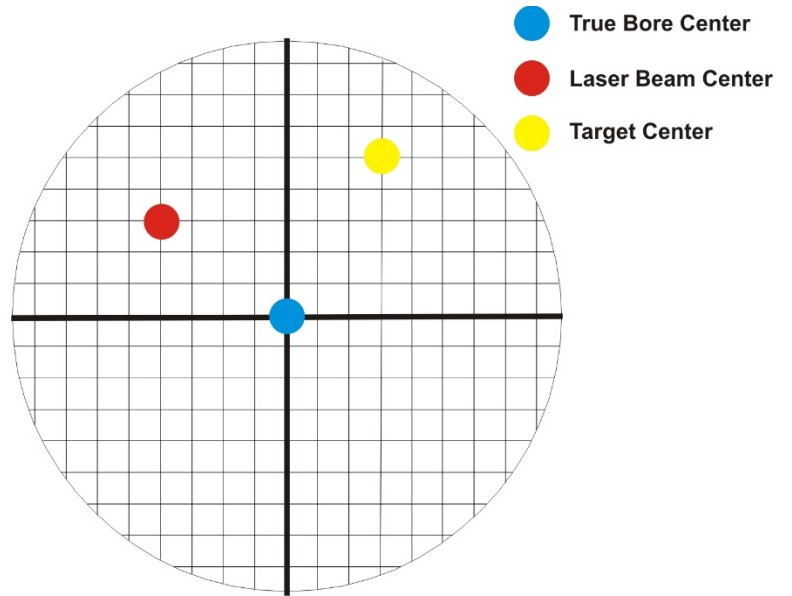

Figure 40 - Target in the NORMal position
**Figure 40** represents the target in the NORMal position, with the cable *down*. If each square represents .001", the Target Center is .002 in. higher than the Laser Beam Center (+.002 in.) and is .007 in. to the right of the Laser Beam Center (+.007 in.).